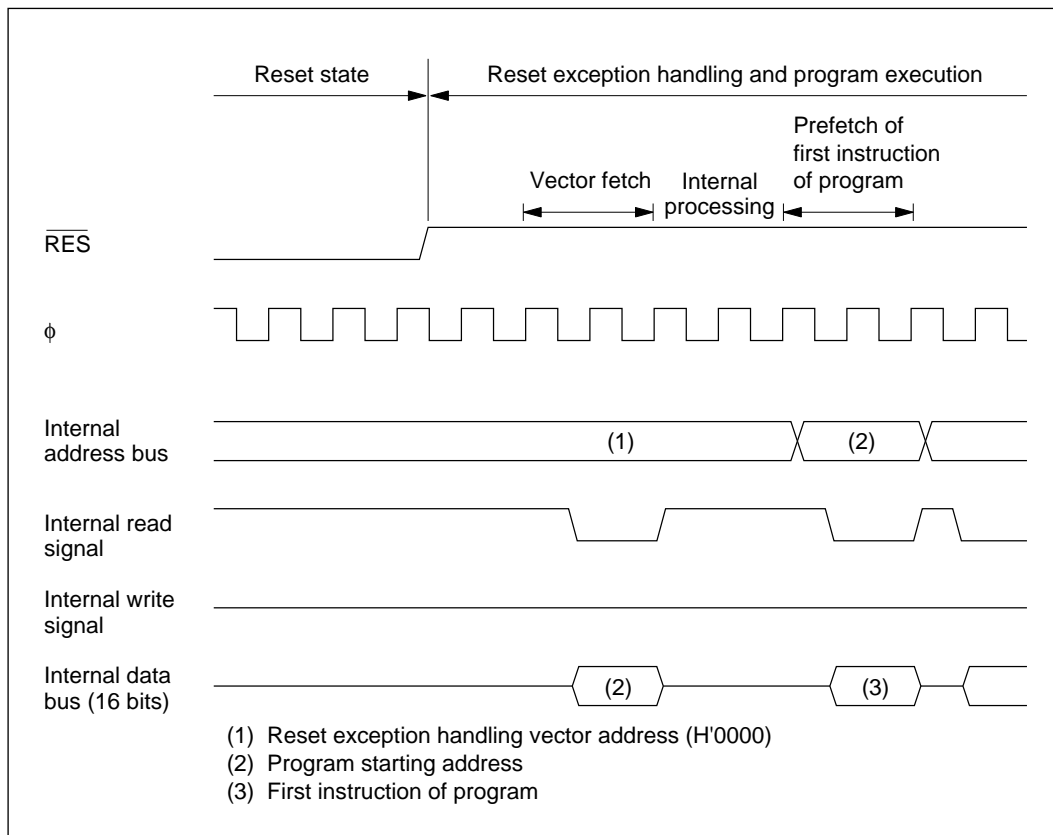

Figure 3-1 Reset Sequence
As soon as the $\overline{\text{RES}}$ pin goes from low to high, reset exception handling starts. The contents of the reset vector address (H'0000 to H'0001) are read and loaded into the program counter (PC). Then program execution starts from the address indicated in PC. Figure 3-1 shows the reset sequence.